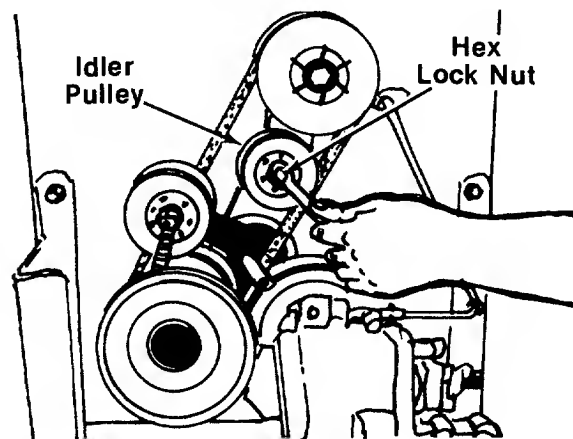

FIGURE 34.
10. Remove the idler pulley by removing the hex lock nut. See figure 34.